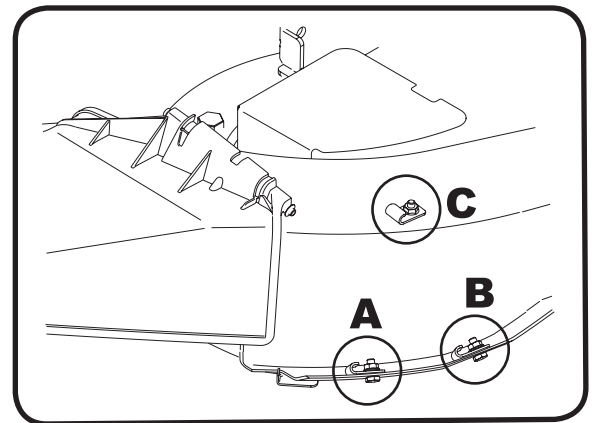

Figure 21
1. On some older models, a clip is already installed on the cutting deck next to the discharge chute opening in position A, B, or C, as seen in Figure 21. If this is the case, the clip must be removed and a grass catcher pin installed.